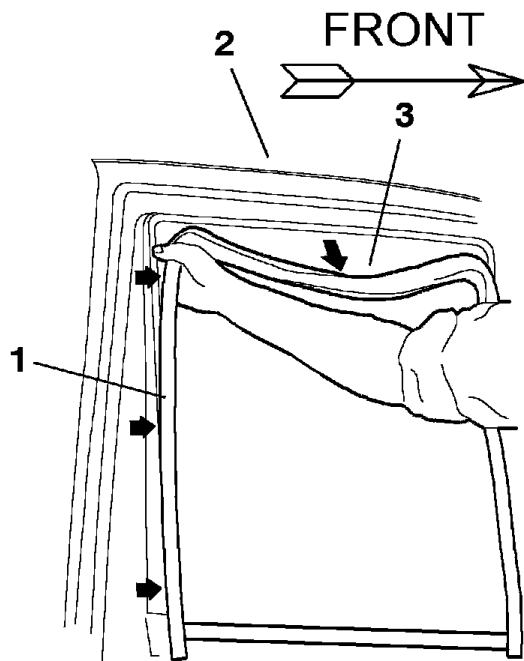

Figure 2 Remove Rear Cab Door Glass Seal and Run Channel
5. Remove rear cab door glass seal and run channel by starting at the upper corner of the window opening by pulling and carefully working across the top of the window opening then down (Figure 2).